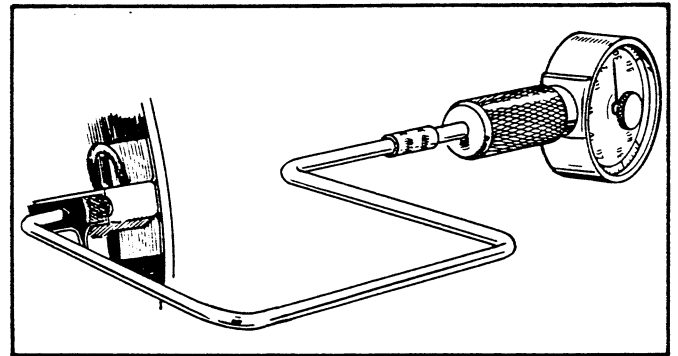

FIGURE 45. BRUSH SPRING TENSION TEST
9. **Inspection for Brush Spring Tension.** Measure brush spring tension with a tension meter as shown in Figure 45. Push the brush and take a reading just as the brush projects a little from the brushholder. On a new brush the spring tension should be 29 to 38 ounces.